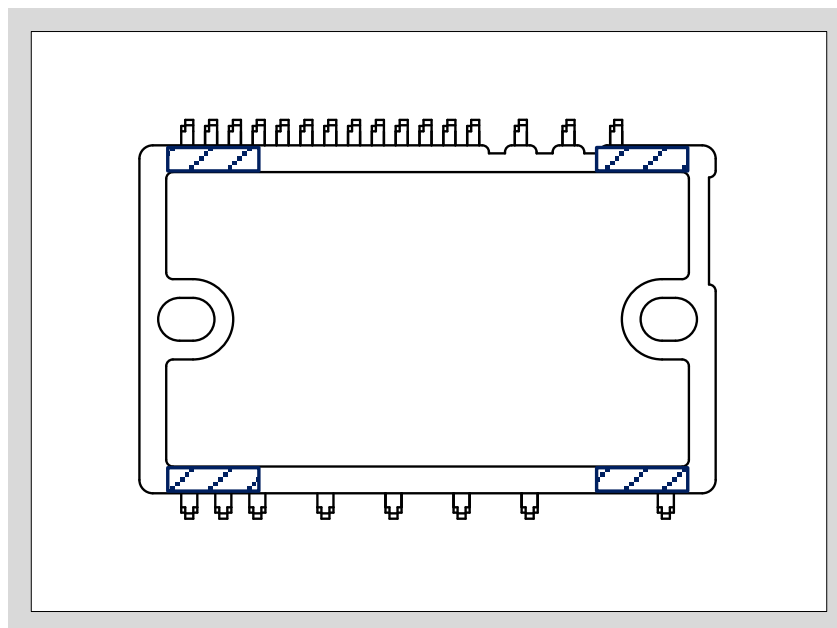

Fig. 4-1 Spacer installation position
- When using spacer between the PCB and the product for alignment during soldering to printed circuit board, it is recommended to support the product at the hatched area as shown in Fig. 4-1.